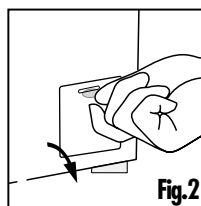

Fig.2
1. Open the bottom cover (Fig. 2).